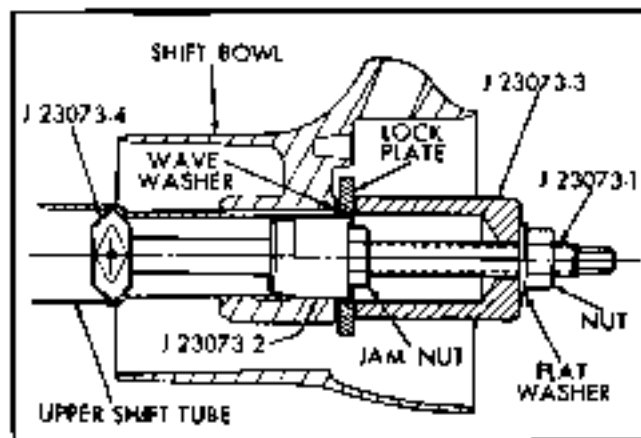

Fig. 9-41 Installation of Shift Tube Installer J 23073
4. Carefully install shift tube in lower end of mast jacket. Align keyway in tube with key in bowl and use tool J 23073 to pull shift tube into bowl (Fig. 9-41).